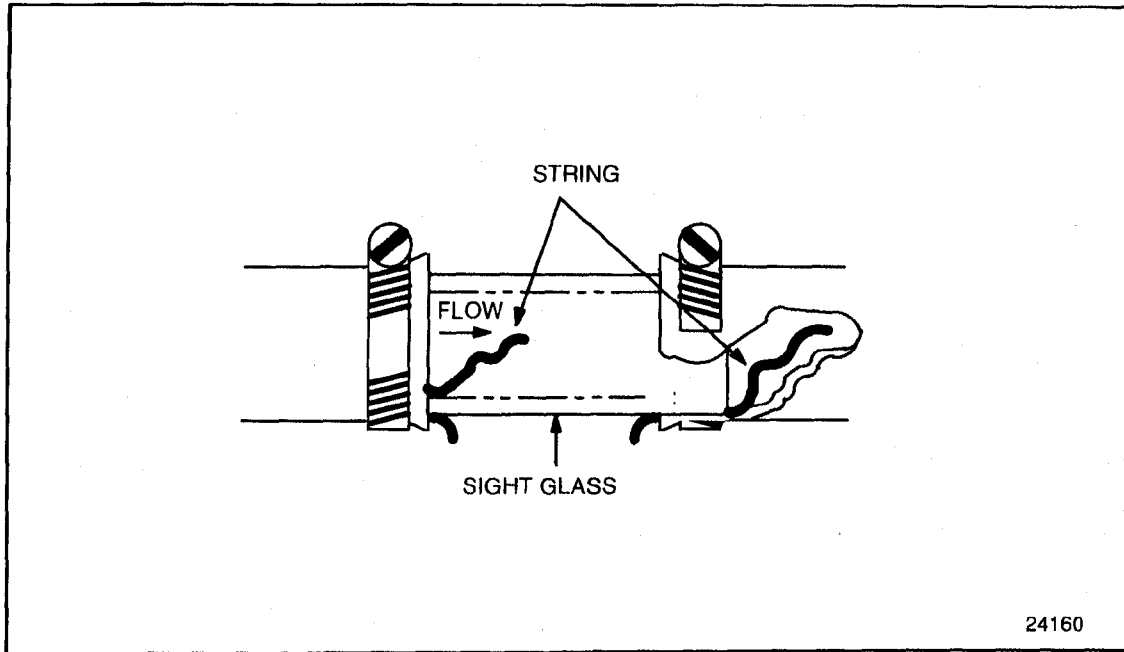

Figure 27-2 Radiator Flow Check
1. Install a sight glass with string (both ends) to the radiator outlet hose near radiator and before fill and heater return lines; see Figure 27-2.